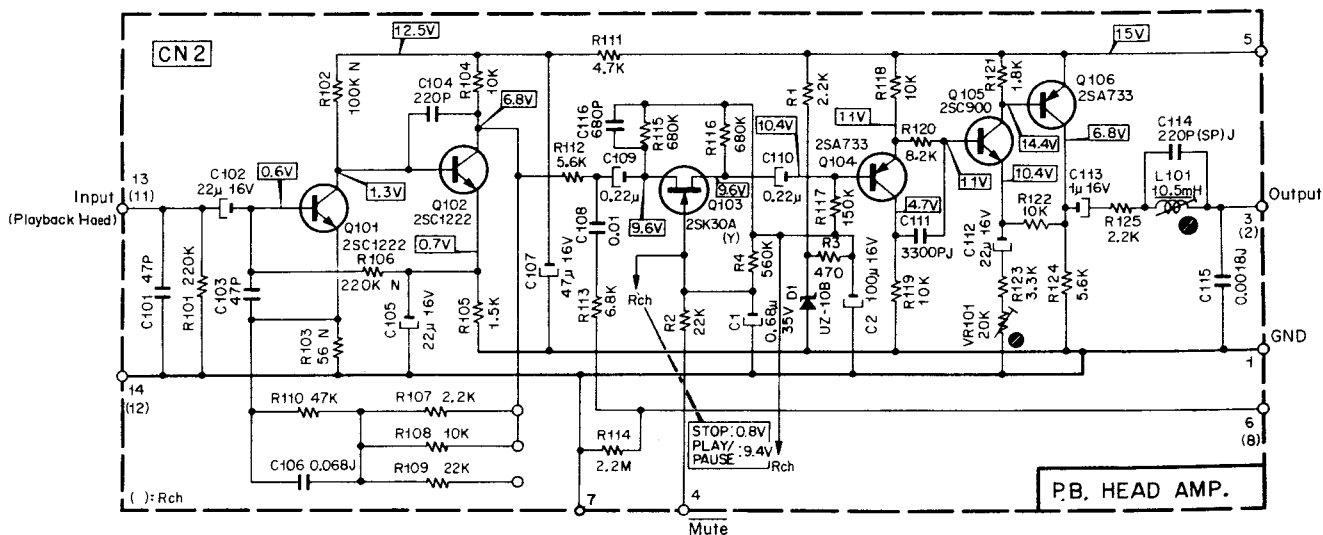
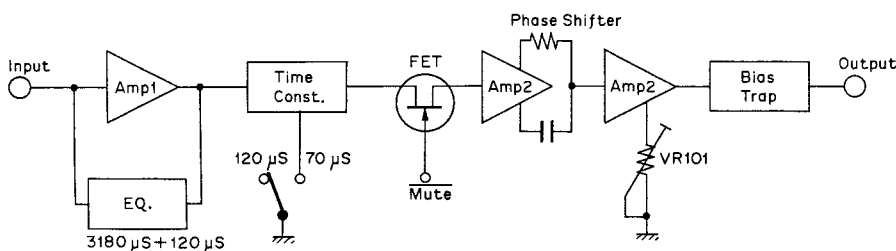

Fig. 2.2.7 Playback Head Amp. Circuit Diagram
Fig. 2.2.8 Playback Head Amp. System Diagram
Fig. 2.2.7 shows the playback amplifier circuit, and Fig. 2.2.8 is its system diagram. The playback head is connected with terminals 13 (11) and 14 (12). Terminal 4 is provided for the mute signal. Terminal 6 (8) and 7 are connected with the EQ switch which is used to select a time constant according to the characteristics of the magnetic tape used.